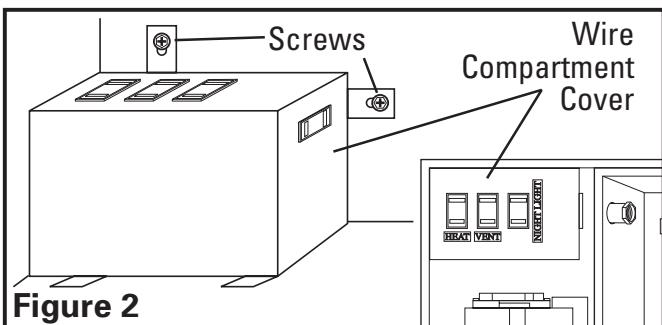

Figure 2
3. Remove the wire compartment cover by loosening the two screws holding the cover in place (Figure 2).